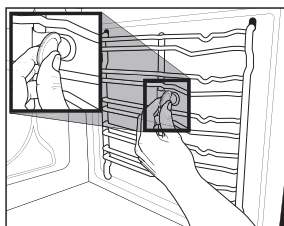

Fig. 4
1. Remove the screws and relative plates on the right and left with the aid of a coin or tool (Fig. 4).